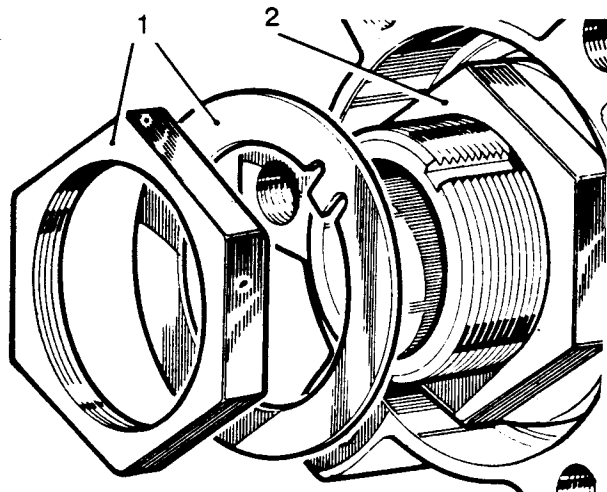

Fig J1.1
- (1) Refer to Fig J1.1. Remove the locknut and lockwasher (1) from the hub.
- (2) Spin the hub vigorously, causing the bearing roller to settle in the tapered races, producing maximum end-float conditions.
- (3) Tighten the adjuster nut (2) sufficient only to take up any obvious end-float. It is necessary to spin the hub every time before checking the end-float, as moving the hub laterally will settle the rollers, affecting the measurable end-float.
- (4) Fit the lockwasher and nut, tighten the nut but do not engage the lockwasher.